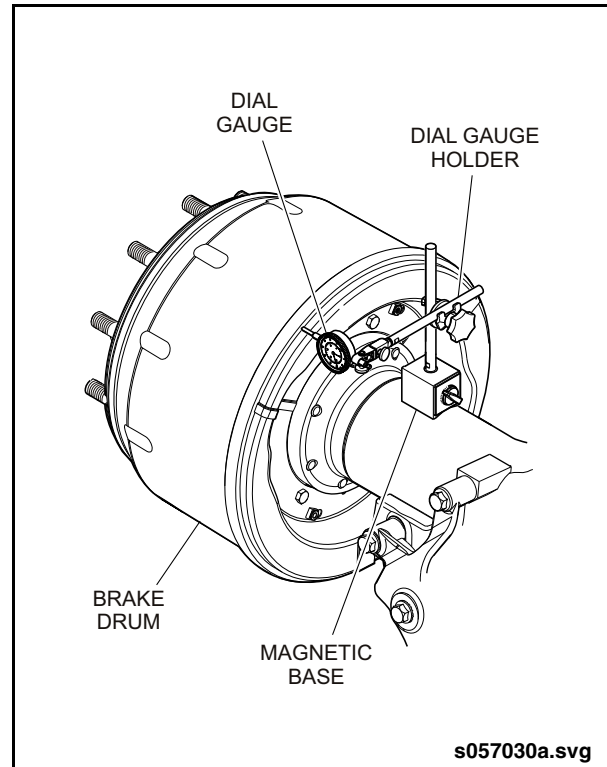

Fig. 4: Wheel Bearing Inspection
1. Attach the base of a magnetic dial gauge to any part of the vehicle frame or axle housing. See “Fig. 4: Wheel Bearing Inspection” on page 5.